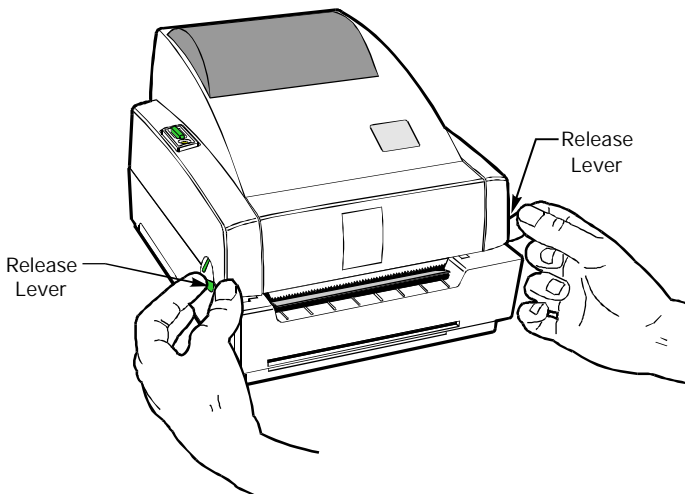

Figure 10
1. Unlatch the top cover by pressing the two green release levers (refer to Figure 10). Then, lift the top cover to expose the media compartment.